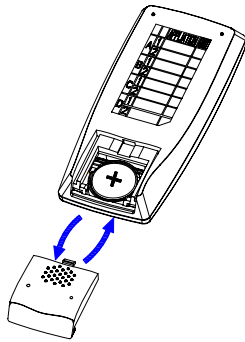

Fig. 1
1. Remove the battery cover. Fit the 3V Lithium battery in the compartment provided with +v terminal facing upwardly. (Fig. 1)